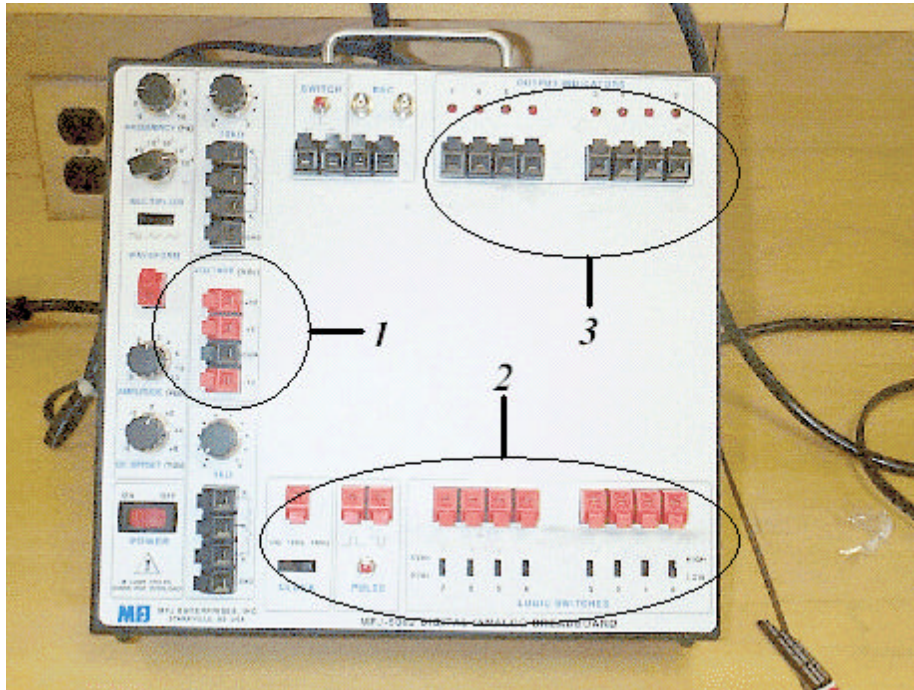

Figure B.2: Overhead view of MFG Digital/Analog Test box (Refer to numbers in Figure B.2 to get more information about that part of the breadboard.)
2. The MFG Digital/Analog Test box (figure B.2)
The MFG Digital/Analog Test box is used to provide power (+5V, GND), clock signals, switch inputs and LED outputs for a circuit mounted on a breadboard. External wires are used to connect the power supplies, switch inputs, etc on the MFG test box to your breadboard (you can see these wires in Figure B.1). When connecting a pin on your breadboard to the digital/analog (D/A) Test box (figure B.2), use a wire that has been inserted into one of the clamps on the D/A test box to the corresponding pinhole on your breadboard. To insert a wire in a clamp on the D/A test box, push down the lever opening the clamp, insert the wire, and then release the lever (thus closing the clamp).